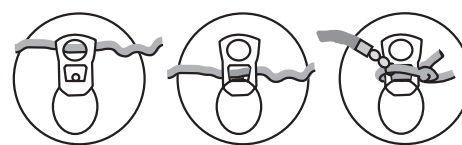

Figure 1.
2. Thread the string through a fishing swivel and tie the two loose ends of the string together (see Figure 1).